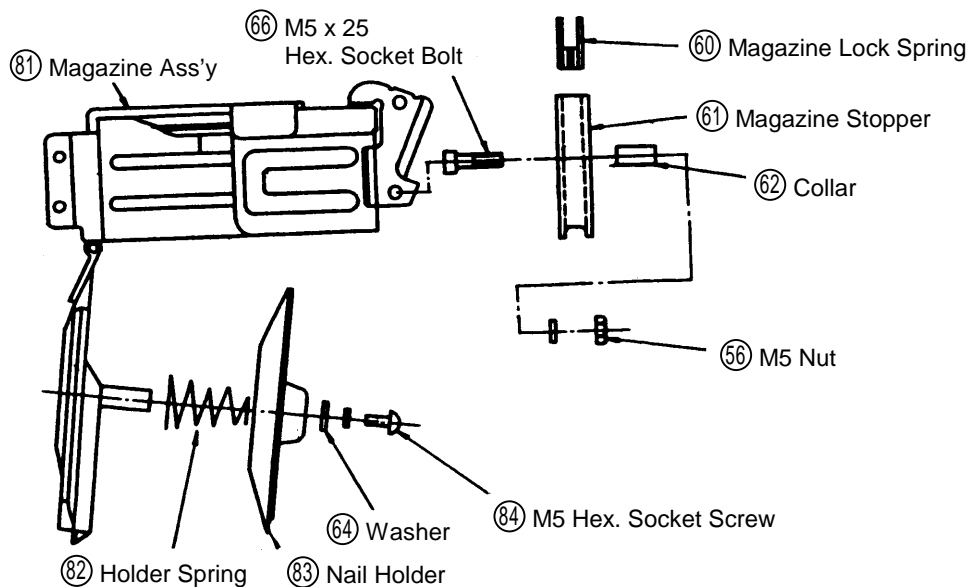

Fig. 25 Magazine ass'y disassembly
(1) Disassembly:
- As described in section 1-1, remove the M5 x 30 Hexagon Socket Hd. Bolt (65), the two M5 x 12 Hexagon Socket Hd. Bolts (57), and the M5 x 10 Hexagon Socket Hd. Bolts (59), and take off the Magazine Ass'y (81).
- Open the cover, remove the M5 Hexagon Socket Round Hd. Screw (84), and disassemble the Washer (64), Nail Holder (83), and Holder Spring (82).
- Remove the M5 x 25 Hexagon Socket Hd. Bolt (66), push out the Magazine Stopper (61) from below, and disassemble the Magazine Stopper (61), Magazine Lock Spring (60), and the Collar (62). (see Fig. 25)
(2) Assembly: